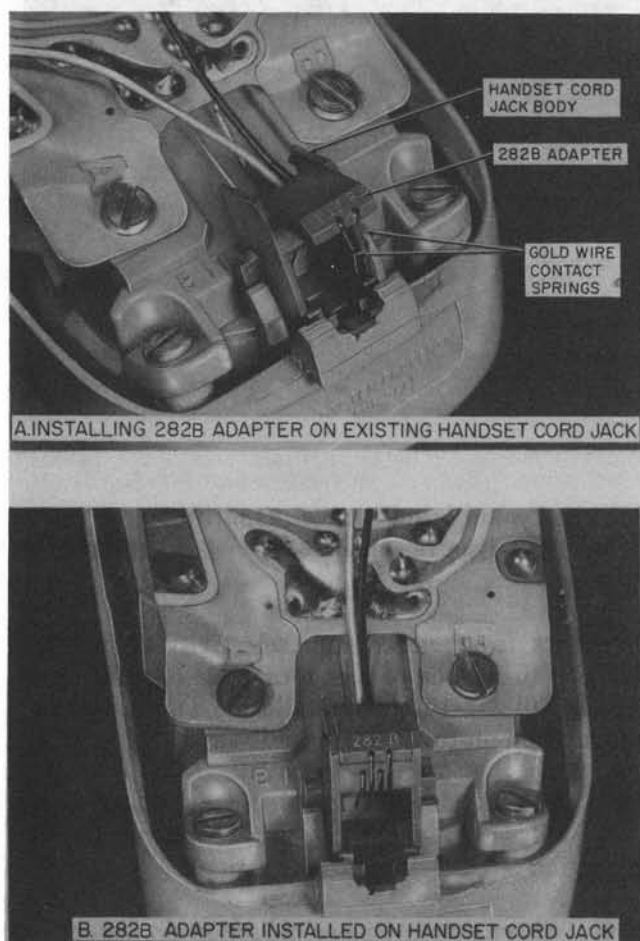

Fig. 16—D-180825 Kit of Parts Installed in 220C, 226A, 2220C, or 2226A Hand Telephone Set
- (1) Remove hand telephone set cover (shell), paragraph 3.05.
- (2) Position the adapter on the handset cord jack body as shown in Fig. 16.
- (3) Slide the adapter into the jack body until locked into place. When correctly assembled, the two gold wire contact springs of the adapter will be positioned in the formerly vacant slots of the jack paralleling the existing gold contact springs (Fig. 16).
- (4) Make connections as shown in Table D.
- (5) Reassemble handset (paragraph 3.06).
- (6) Install and connect terminal board [refer to paragraph 3.17 (5), (6), (7), and (8)].